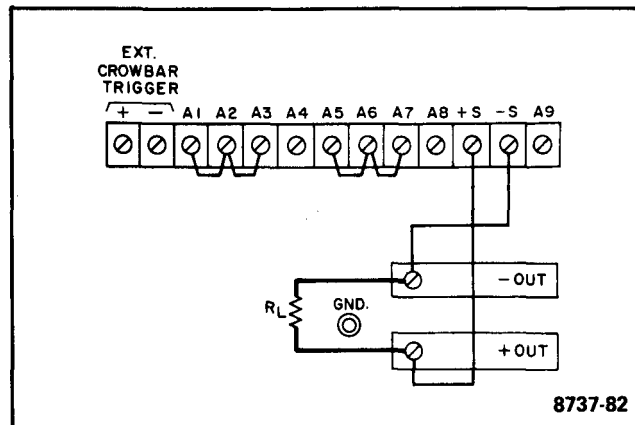

Figure 3-2. Normal Strapping Pattern
a. Turn CURRENT controls (7) and OVERVOLTAGE ADJUST potentiometer (5) fully clockwise and check that rear panel straps are connected as shown in Figure 3-2, but do not connect load  $R_L$ .
- c. Set LINE switch or circuit breaker (1) ON and observe that pilot lamp (2) lights.
- d. Adjust COARSE and FINE VOLTAGE controls (3) for desired indication on voltmeter (4).
- e. Ensure that overvoltage crowbar circuit is operational by slowly turning OVERVOLTAGE ADJUST control (5) counterclockwise with a screwdriver until OVERVOLTAGE lamp (6) lights and voltmeter indication drops to zero volts.
g. To check the constant current circuit, first turn off the supply, connect a short across the output bus bars (see Figure 3-2), and turn it back on.
3-7 This power supply was shipped with the proper rear panel strapping connections made for constant-voltage/constant-current operation with local sensing and local programming. This strapping pattern is illustrated in Figure 3-2. In the constant-voltage mode, the power supply acts to maintain its output voltage constant in spite of changes in load, line, temperature, etc. Thus, for a change in load resistance, the output voltage of this mode remains constant while the output current changes by whatever amount necessary to accomplish this. In the constant-current mode, the power supply acts to maintain its output current constant in spite of changes in load, line, temperature, etc. Thus, for a change in load resistance, the output current remains constant while the output voltage changes by whatever amount necessary to accomplish this. By means of the front panel voltage and current controls, the operator selects either a constant-voltage or a constant-current output. Whether the supply functions in the constant-voltage or the constant-current mode depends on the settings of the voltage and current controls and on the resistance of the output load. For values of load resistance greater than a critical crossover value equal to the voltage setting divided by the current setting, the supply operates in the constant-voltage mode. With a load resistance smaller than this critical value, it operates in the constant-current mode. The transition occurs automatically; no switches need to be operated or connections changed.
3-28 Because of the unavoidable voltage drop developed in the load leads, the normal strapping pattern shown in Figure 3-2 will not provide the best possible voltage regulation at the load. If, for example, one were to use 4-gauge wire to connect a load that
*The +S jumper is the one that links the +S terminal to the +OUT terminal when the supply's terminals are strapped for normal operation as shown in Figure 3-2. The -S jumper is the one that links the -S terminal to the -OUT terminal.*